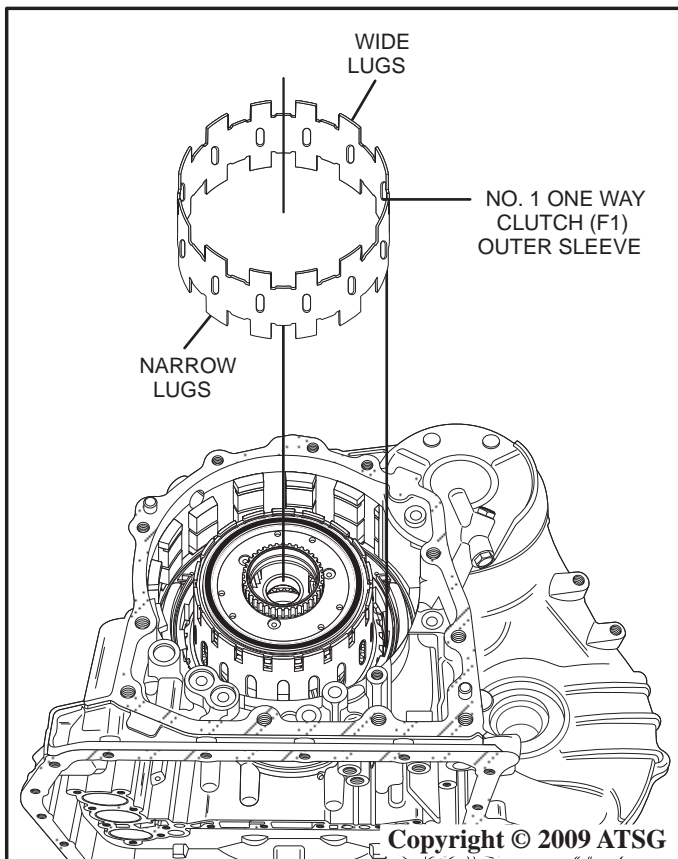

Figure 162
33. Install the No. 1 one way clutch (F1) outer sleeve so that the narrow lugs fit into the locating slots in the 2nd brake (B1) piston housing assembly as shown in Figure 162.